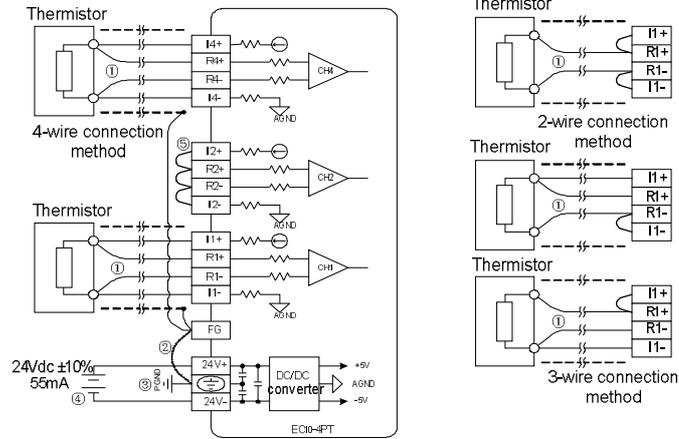

Figure 1-4 IVC-EH-4PT user terminal wiring diagram
Figure 1-4 shows the user terminal wiring requirements. Pay attention to the following seven aspects:
- The labels ① to ⑤ in Figure 1-4 indicate the connection that you need to pay special attention to.